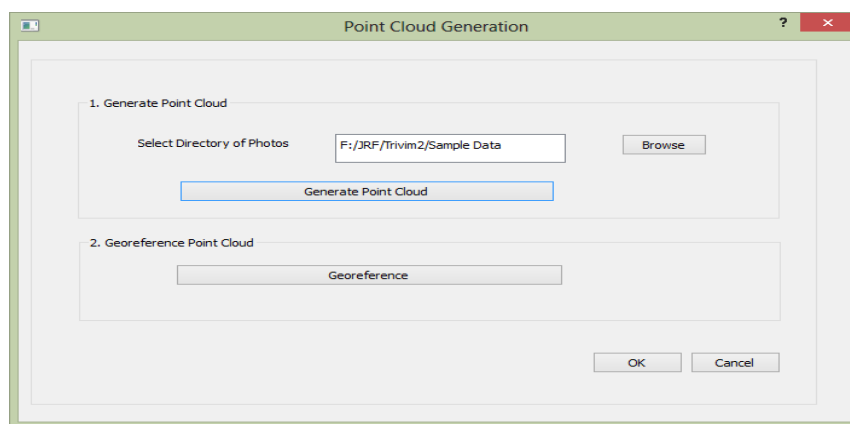

Fig 8: Point Cloud Generation and Georeferencing window
- Click on *Field Planning* in main menu to open the Field Planning window. (Fig 8)
- Click on *Point Cloud Generation* in main menu to open the Point Cloud Generation window (Fig 8).